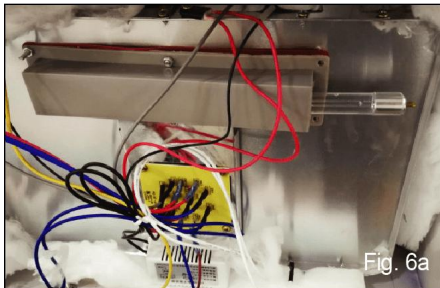

Fig. 6a
9. Remove the faulty bulb. Insert a new bulb back inside the small box, close the lid, and tighten the two screws on the lid. See Fig. 6a & 6b.